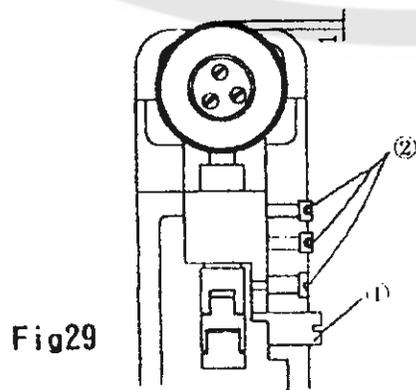

Fig29
- 1) For single needle, lose the set screws (2). Use the flat screw driver to turn the cam shaft (1) for the roller highness adjustment shown in fig. 29.